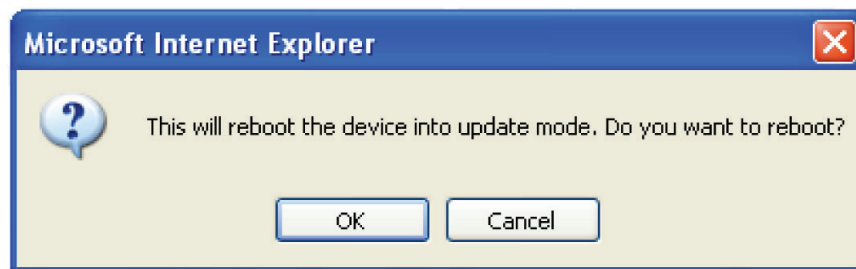

Figure 3-9. Reboot prompt.
3. The popup screen shown in Figure 3-9 appears.